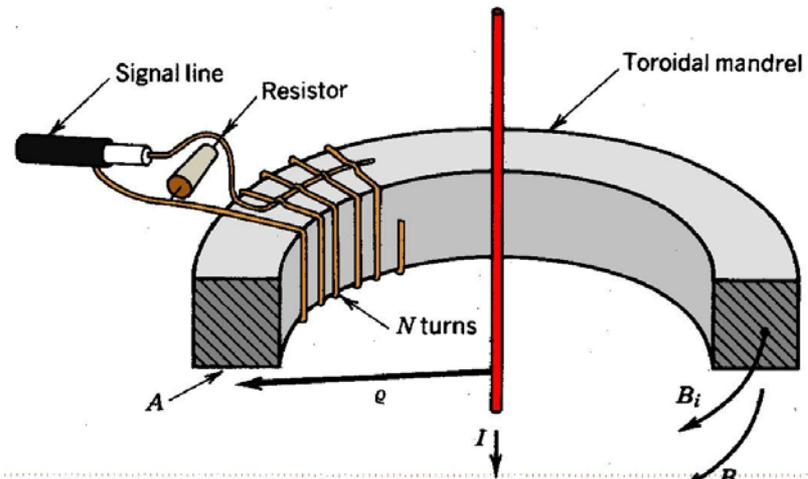

Figure 9.58 Rogowski loop—self-integrating current probe.
- More rigorously, the field  $B_i$ , in Fig 9.58